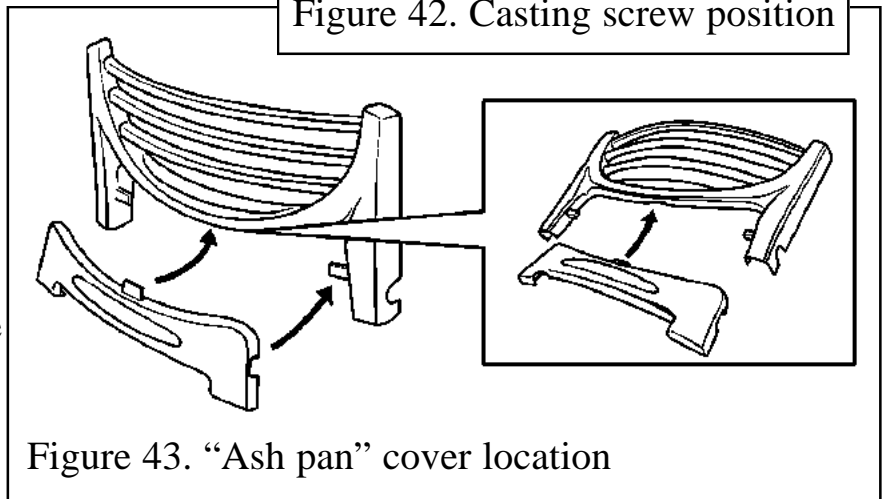

Figure 43. "Ash pan" cover location
14.5 Fit the "ash pan" cover below the front casting locating it as shown in figure 43.